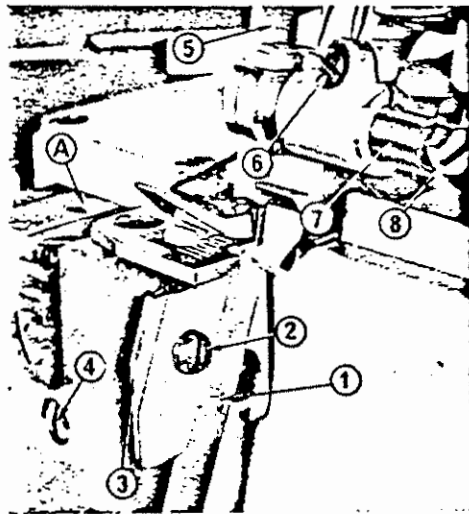
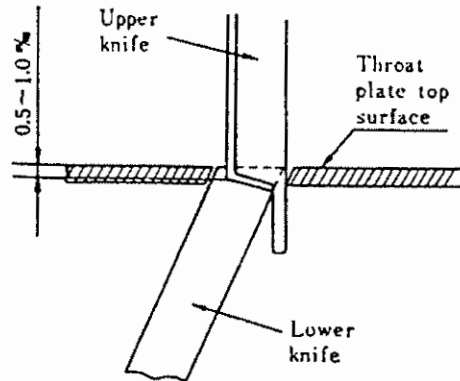

Fig. 21
Fig. 22
- ③ As the lower knife adjuster ③ Fig. 21 makes a slight movement when the machine is running, apply a little quantity of oil to the upper part of the lower knife support bracket ④, Fig. 21.
## 11. Knife mechanism (Fig. 21)
- To adjust the width of knife, press down the lower knife holder to the left, tighten the stopper locking screw ④ and then determine the width (knife width) between the needle position and the upper knife ⑤.
The knife width will become wider if the upper knife holder stud clamp screw ⑥ is loosened and the upper knife holder stud ⑦ is moved to the right toward the pulley and if it's moved to the left towards the needle, it becomes narrower. The width can be adjusted from 2-5 mm ( $1/16 \sim 1/4$ " ) range. When the knife width is fixed, tighten the screw ⑥. When the upper knife is lowered to the lowest point, be sure that it sinks  $0.5 \sim 1 \text{ mm}$  ( $5/256 \sim 5/128$ " ) below the level of lower knife (Fig. 22) by loosening the upper knife clamp screw (Fig. 21 ⑧), then tighten the screw ⑧.
When this adjustment is completed, be sure to loosen the stopper locking screw (Fig. 21 ④). Be doubly sure that the upper knife and the upper knife holder are not touching the throat plate, the looper cover or the feed base. If they are, the parts may be damaged.